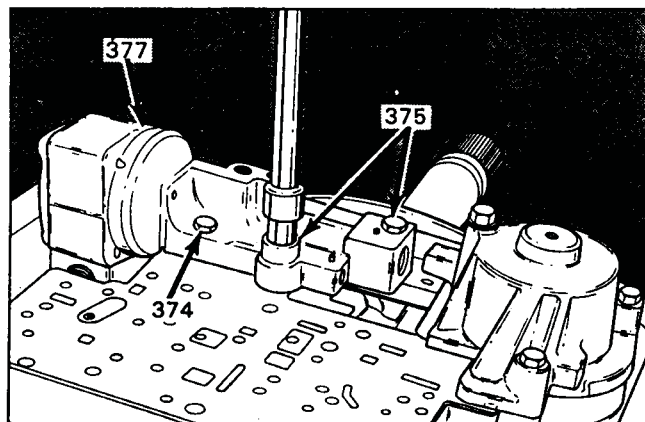

Figure 192
16. Install the auxiliary valve body onto the transmission, as shown Figure 192, using ONLY the three bolts shown, and torque 3 bolts to 8 ft.lbs.